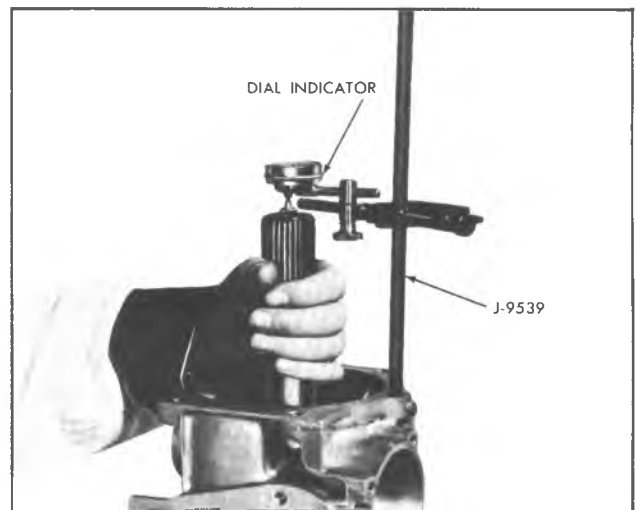

Fig. 32T--Checking Rear Unit End Play
Check Rear End Play as Follows (Fig. 32T)
- a. Install J-9539 or a 3/8"-16 threaded bolt into an extension housing attaching bolt hole (fig. 32T).